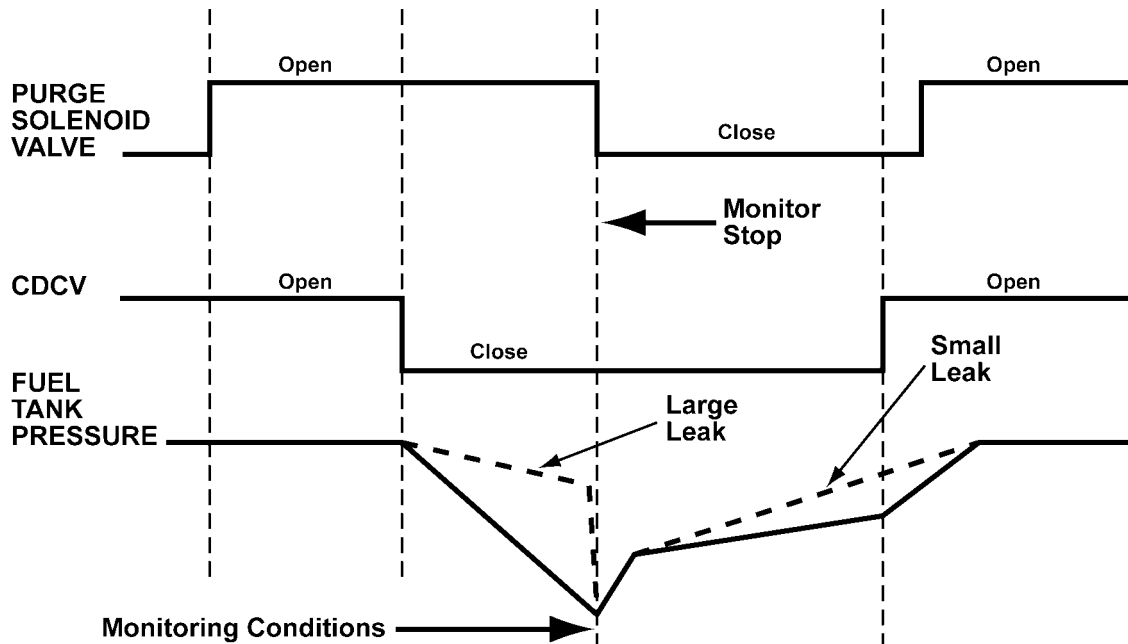

Figure MA000-20
- Fuel tank pressure will change as shown in the illustration during monitoring (Figure MA000-20).